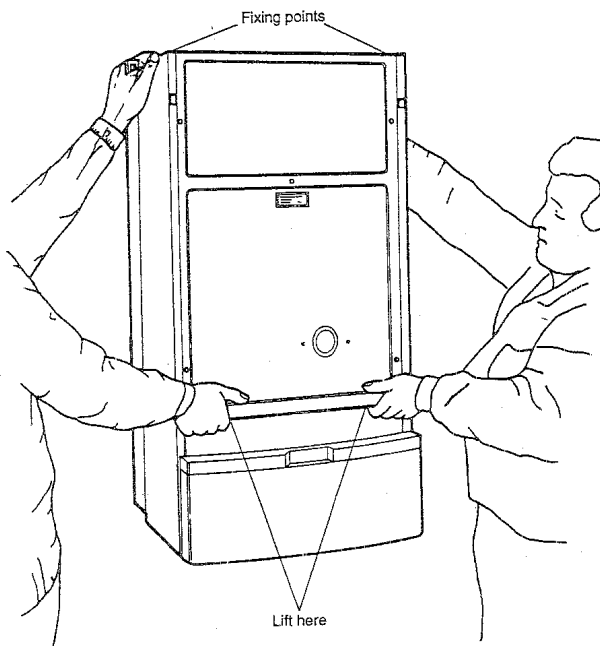

Fig. 15
- 5.3 Lift boiler as shown in fig. 15 onto the top studs and fit supplied nuts and washers hand tight